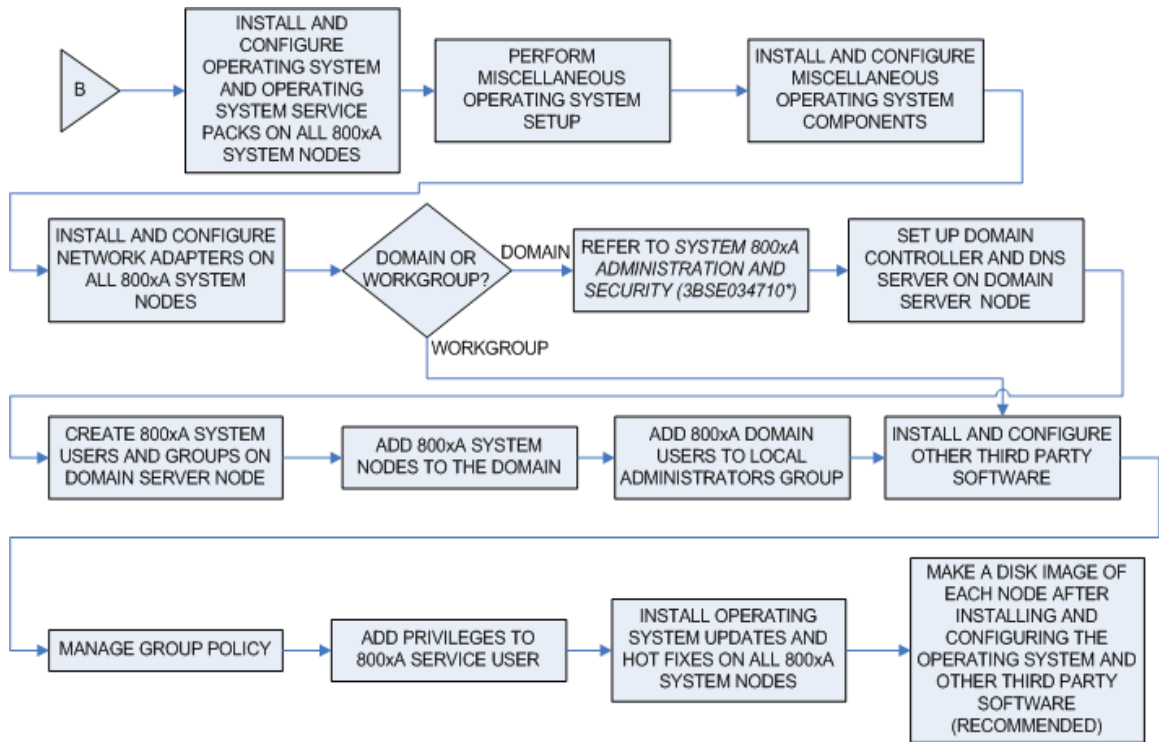

Figure 3. Installation Sequence Flow Chart B (Operating System and Third Party Software Installation)
- Operating System and third party software installation (Figure 3).